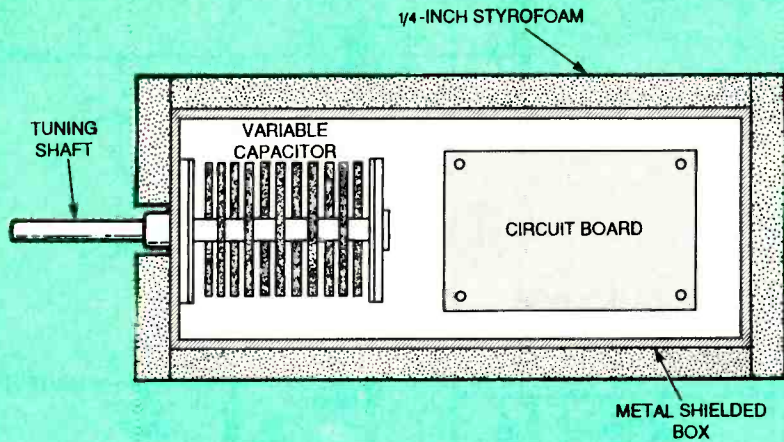

Fig. 1. A VFO should be thermally isolated by using insulation around the shielded enclosure housing the oscillator circuitry.
over all surfaces of the VFO housing (see Fig. 1). In those days, the "Styrofoam job" was nearly always a mess because only salvaged coffee cups and 3/4-inch builder's Styrofoam were easily available.
**Starting From Scratch.** Figure 1 shows many of the schematic symbols that you are likely to encounter in an electronics diagram (they are not the only ones, but merely the more common ones). The symbols shown are standard for this publication.
While different members of a given family may perform a particular function, they often do it in slightly different ways. To illustrate, take the switch family: compare the toggle switches to the relay switches. If you were to compare the action of a single-pole, single-throw (SPST) toggle switch to a reed relay, you'd find that they perform the same function: the former manually and the latter electrically. And if you compare the operation of a single-pole double-throw (SPDT) toggle switch to that of the relay pictured in the switch section of Fig. 1, you'd find that they both perform the same function (again the former, manually and the latter electrically).
*Fig. 1. The schematic symbols shown in this chart are standard for this publication, and make up many of the symbols that you are likely to encounter in an electronic diagram. They are not the only ones, but merely the more common ones.*
**Optoelectronics.** This family of components is a rather diverse one, which includes optocouplers, light-activated diodes and transistors, light-emitting diodes (LED's), and seven-segment displays. There are others, such as the light-activated SCR (LASCR), which is shown in Fig. 1 under the thyristor heading.